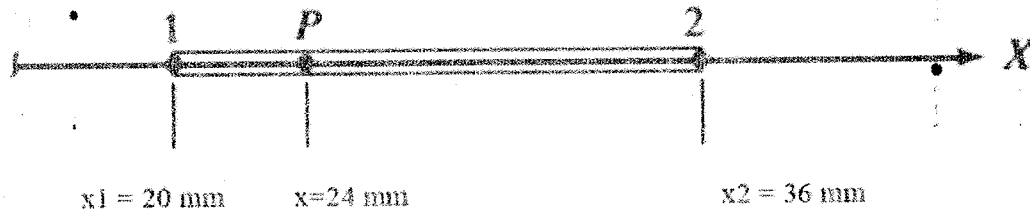

Fig. 1
- Q4. Refer to Fig. 1. If displacement at point 1 is 0.003 mm and that at point 2 is -0.005 mm, determine the value of the displacement at point P.